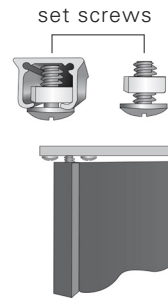

Figure 4
**5:** Install one set screw about 1" from the end of the track where the stationary bamboo edge bar will be located. Insert the hanger on the bamboo edge bar and then install another set screw at the end of the track, so the bamboo edge bar is caught between the two set screws and cannot move. If installing a split draw door, the bamboo edge bar at each end will require two set screws to hold it in place. [Figure 4]